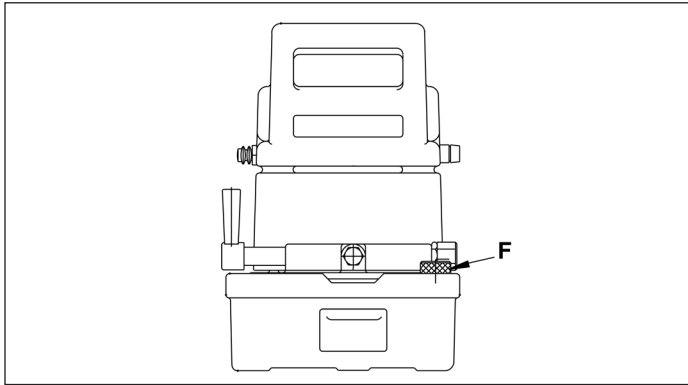

Figure 10
7.2 Changing the Oil (Figure 10)